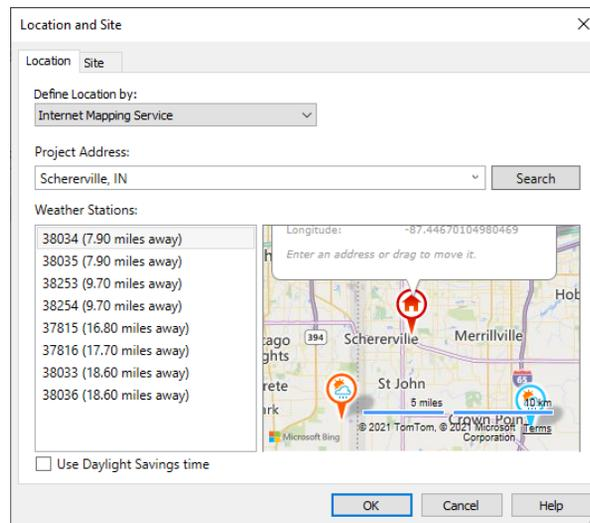

Figure 2-32 The **Location and Site** dialog box
- In the **Location** tab of the **Location and Site** dialog box, enter **Schererville, IN** in the **Project Address** edit box and then choose the **Search** button; the **Bing Map** browser is displayed under the **Project Address** edit box showing the desired location in the map, as shown in Figure 2-32.